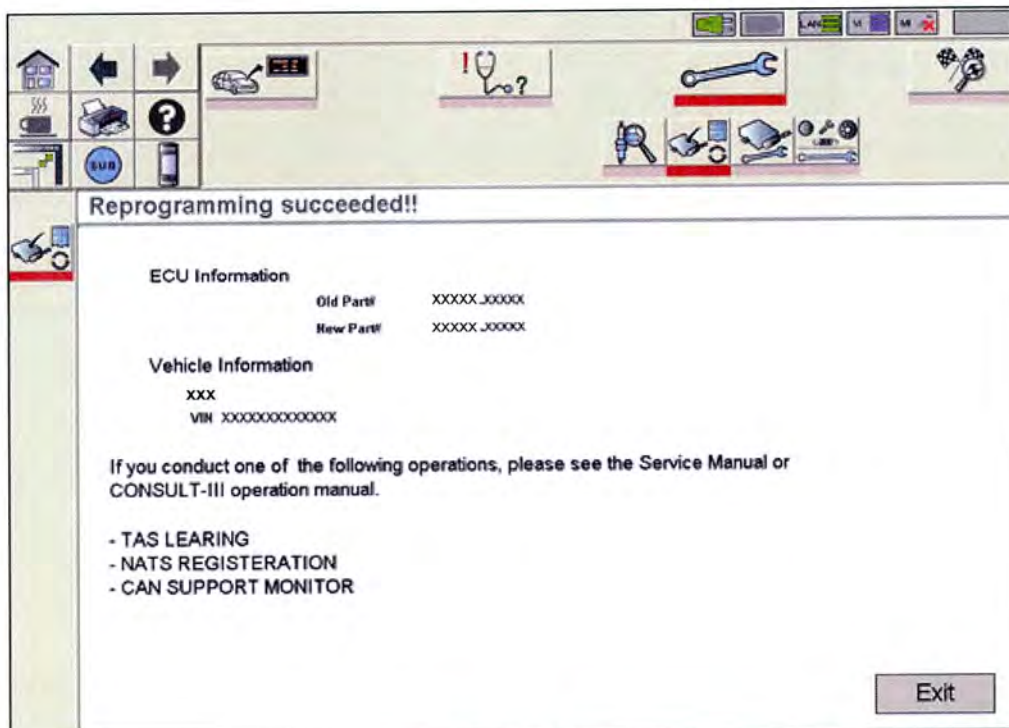

Figure 2
3. If TCM reprogramming applies and you have performed TCM reprogramming; when reprogramming is complete, the screen in Figure 2 appears.